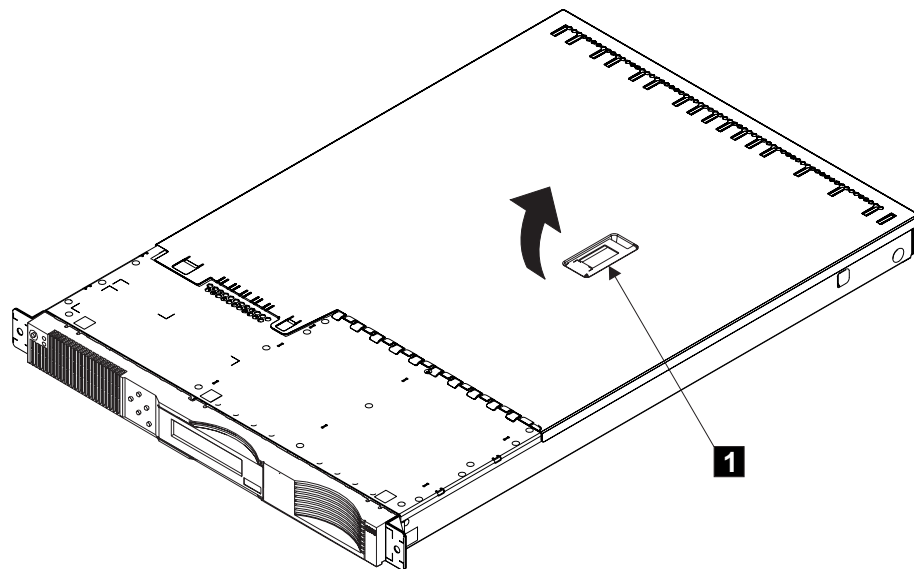

Figure 94. Removing the top cover
3. Lift the lever (1 in Figure 94 on page 367). This action moves the top cover rearward approximately 13 mm (0.5 in).